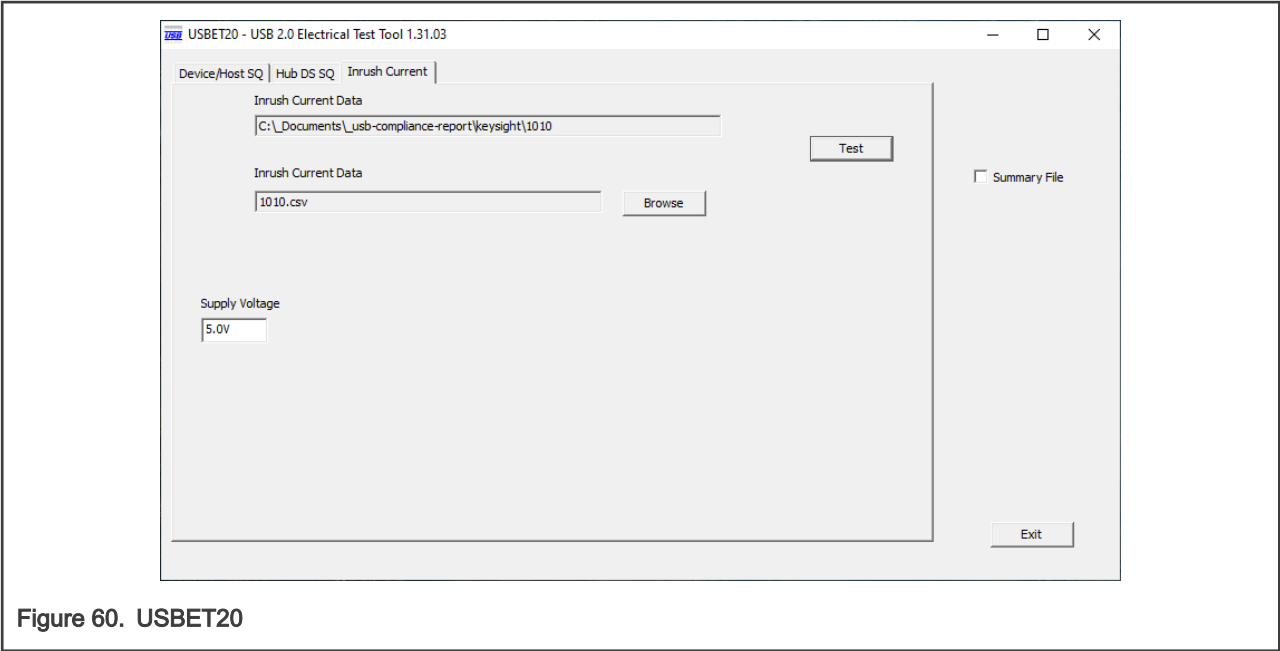

Figure 60. USBET20
6. Copy the *.CSV file to PC. Open the file in the USBET20 software as shown in Figure 60. The file can be downloaded from USB-IF Document page. Click **Test**, and the result pops up.